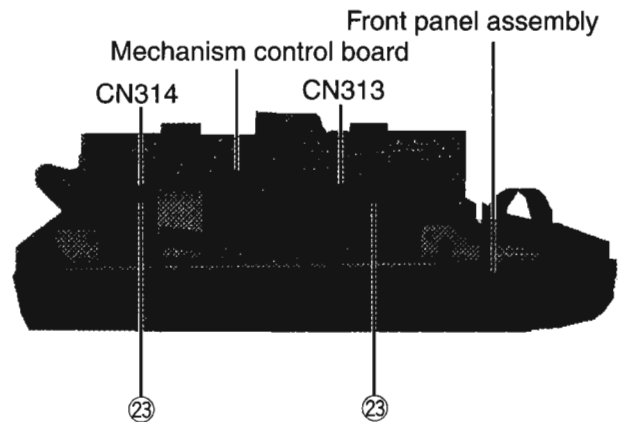

Fig. 19
■ Removal of the Mechanism Control Board (See Figs 19)
5. Remove the two screws ⑳ mechanism control board.